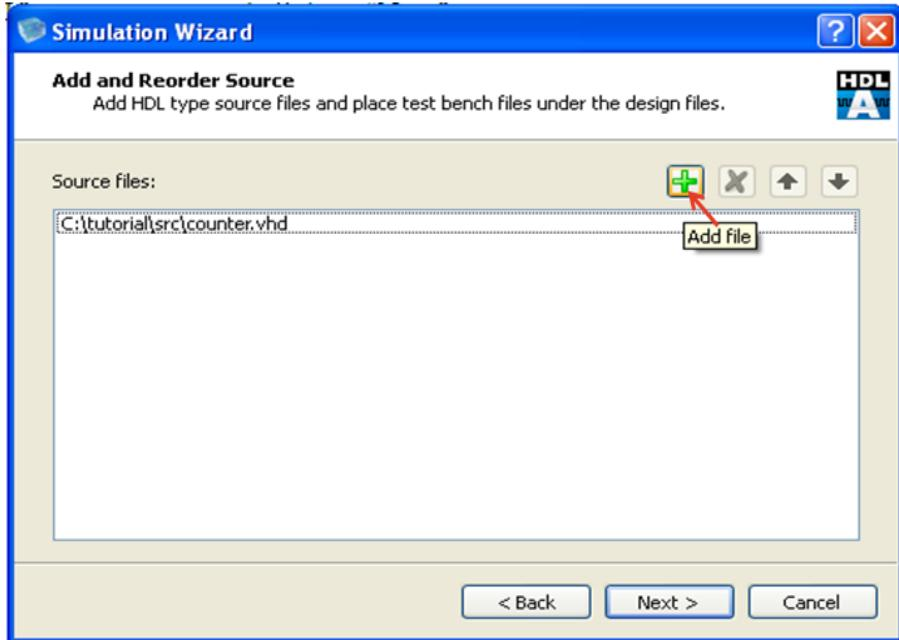

Figure 10-5 : Auto added RTL design Files
- All the RTL design files in the iCECube2 project would be automatically added under the source files section as shown in Figure 10-5. Select “+” icon to add “**count_tb.vhd**” test bench file.